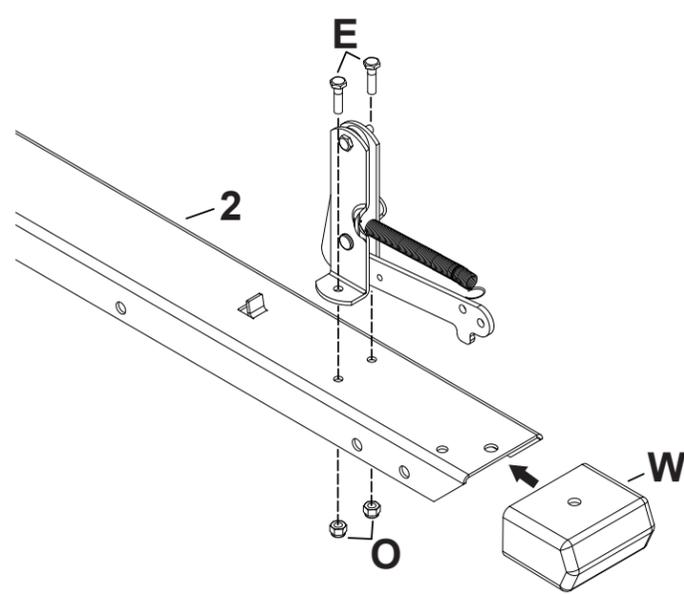

Figure 3
STEP 5 (SEE FIGURE 3): Place the latch lock assembly onto the rear tongue (2) as shown above.
STEP 6 (SEE FIGURE 3): Install two 1/4-20 x 1" bolts (E) through the latch lock assembly and rear tongue (2).
STEP 7 (SEE FIGURE 3): Secure both bolts (E) with a 1/4-20 nylock nut (O). Tighten hardware.
STEP 8 (SEE FIGURE 3): Install plastic cap (W) onto front end of the rear tongue (2).